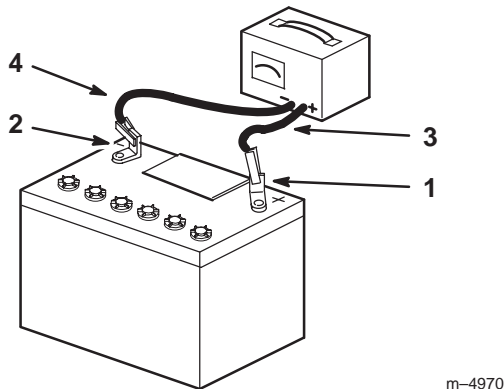

Figure 64
4. When the battery is fully charged, unplug the charger from the electrical outlet, then disconnect the charger leads from the battery posts (Fig. 64).